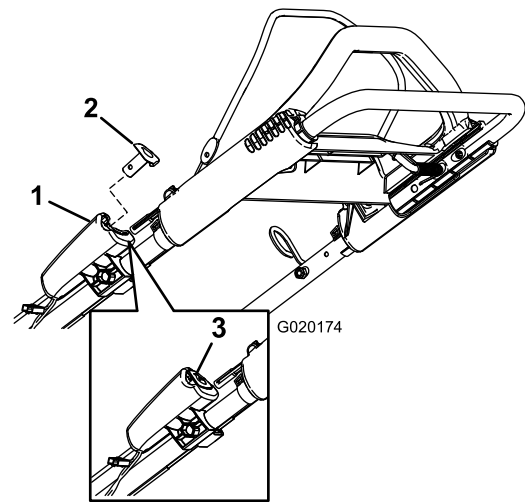
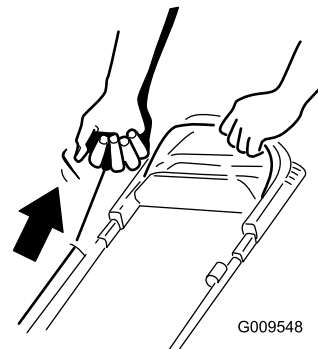

Figure 17
Figure 18
2. Push the electric-start button (Figure 17) or pull the recoil-start handle (Figure 18) lightly until you feel resistance, then pull it sharply, and allow it to return to the rope guide on the handle slowly.